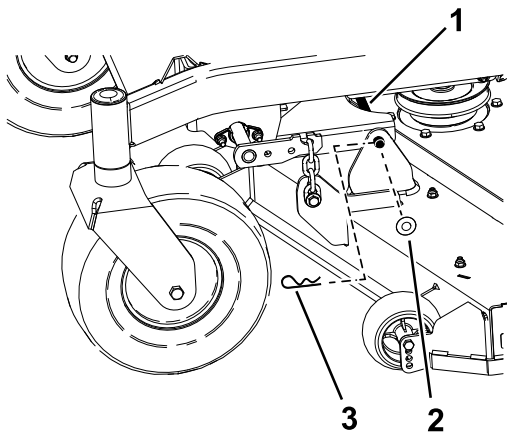

Figure 60
5. Remove the hairpin cotter and washer securing the link pin to the frame and deck, and remove the link bar (Figure 60).
9. Secure the link pin with the hairpin cotters and washers removed previously (Figure 60).